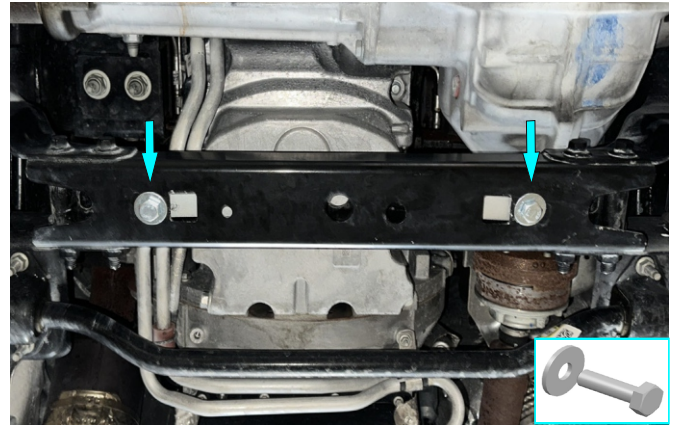

Fig. 2
2. Loosely install M10x35 bolts with M10 flat washers (item B, C) as shown in fig.2. At this point only thread bolt in 2-3 turns.